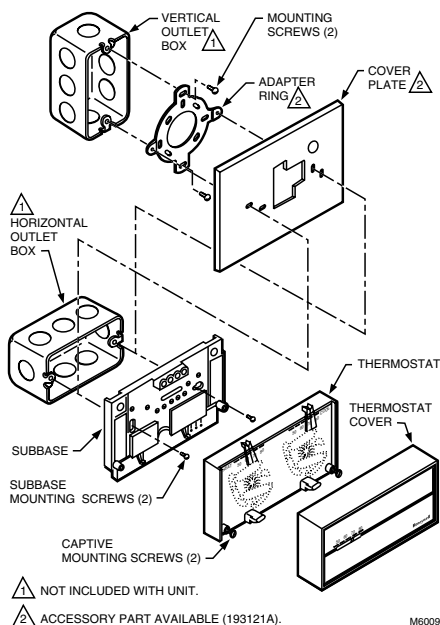
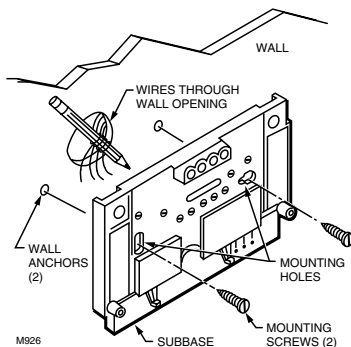

Fig. 1. Installation of Q674 Subbase on outlet box.
Fig. 2. Installation of Q674 Subbase on wall.
The subbase can be mounted on a vertical or horizontal outlet box (see Fig. 1) or directly on the wall (see Fig. 2).
4. Pull electrical wires through the cover plate, if used, and through the subbase wire opening. See Fig. 2. Secure the cover plate and subbase with the two screws provided, but do not fully tighten the screws.
- 6 Tighten the captive mounting screws. See Fig. 1.